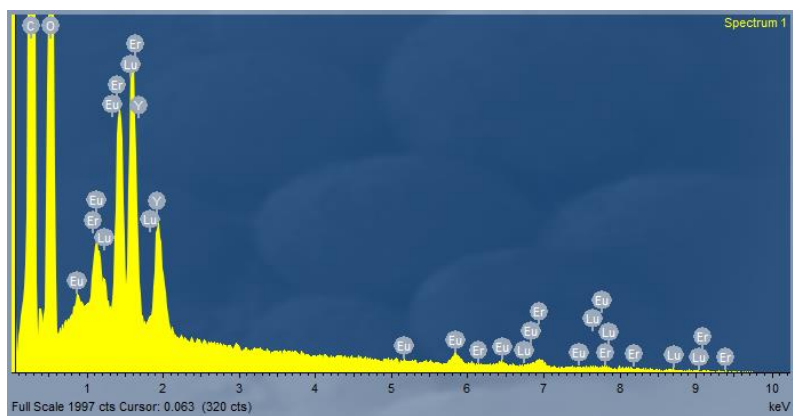

Fig. S7 EDS of YEuErLu-CPs.
8. **Fig. S7** EDS of YEuErLu-CPs.